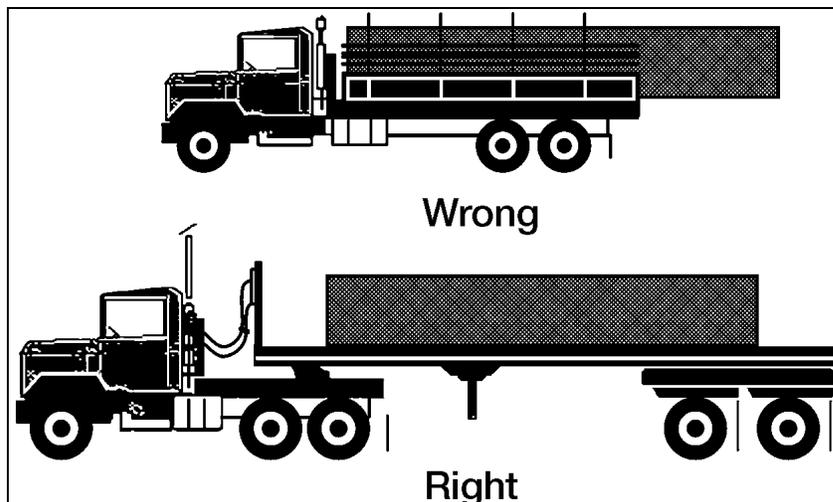

Figure 3-52c. Load Balancing (continued)
- (1) Ensure that cargo is placed on vehicle/flatrack with the heaviest items on the bottom and spread evenly across the vehicle both longitudinally and laterally (see Figures 3-52c and 3-52d).
- (2) Ensure items are not stacked too high to allow for the lowest center-of-gravity.
- (3) Ensure that load does not extend past vehicle cargo area perimeters and that cargo truck tailgate is raised and locked in place.
- (4) Check vehicle data plate and TM to ensure that vehicle weight and cube limitations have not been exceeded.